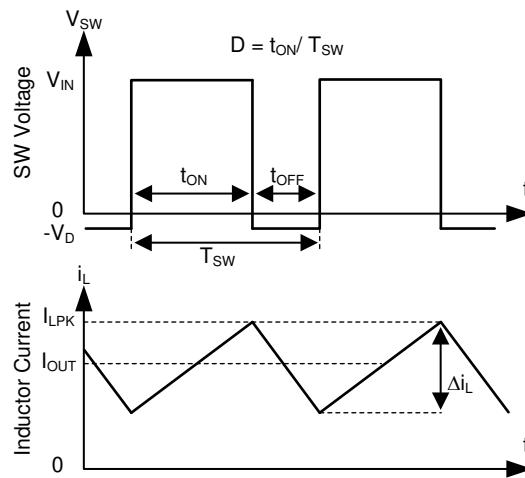

FIG 10-2. SW Node and Inductor Current Waveforms in Continuous Conduction Mode (CCM)
The following operating description of the TPS2586x-Q1 refers to the *Functional Block Diagram*. The TPS2586x-Q1 integrates a monolithic, synchronous, rectified, step-down, switch-mode converter with internal power MOSFETs and USB current-limit switches with charging ports auto-detection. The TPS2586x-Q1 offers a compact and high efficiency solution with excellent load and line regulation over a wide input supply range. The TPS2586x-Q1 supplies a regulated output voltage by turning on the high-side (HS) and low-side (LS) NMOS switches with controlled duty cycle. During high-side switch ON time, the SW pin voltage swings up to approximately V_{IN} . The inductor current i_L increases with linear slope $(V_{IN} - V_{OUT}) / L$. When the HS switch is turned off by the control logic, the LS switch is turned on after an anti-shoot-through dead time. Inductor current discharges through the LS switch with a slope of $-V_{OUT} / L$. The control parameter of a buck converter is defined as Duty Cycle $D = t_{ON} / T_{SW}$, where t_{ON} is the high-side switch ON time and T_{SW} is the switching period, shown in FIG 10-2. The regulator control loop maintains a constant output voltage by adjusting the duty cycle D. In an ideal buck converter, where losses are ignored, D is proportional to the output voltage and inversely proportional to the input voltage: $D = V_{OUT} / V_{IN}$.